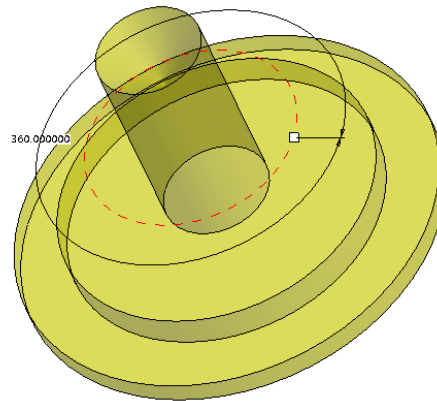

Figure 3-55 The preview of the model in default trimetric view
- e. Exit the sketcher environment and define the model attributes, refer to Figures 3-55 and 3-56.
The feature will orient in its default orientation, as shown in Figure 3-55. This display gives you a better view of the sketch in the 3D space. Model appears in yellow color and is translucent. The drag handle is also available on the model which can be used to modify the angle of revolution dynamically.